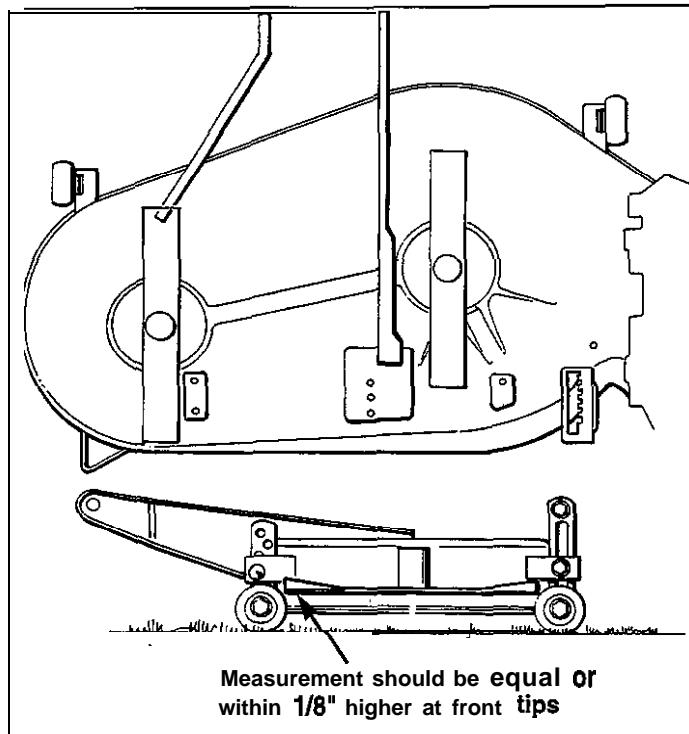

Figure 26. Leveling the Mower Deck Front-to-Back
6. Arrange the blades so they face front-to-back (figure 26).
7. See figure 26. Measure the distance from the ground to the front and rear tips of each blade. The measurement should be equal for both blades. Front tips should be equal to rear tips or within 1/8" higher. If not, proceed to step 8.